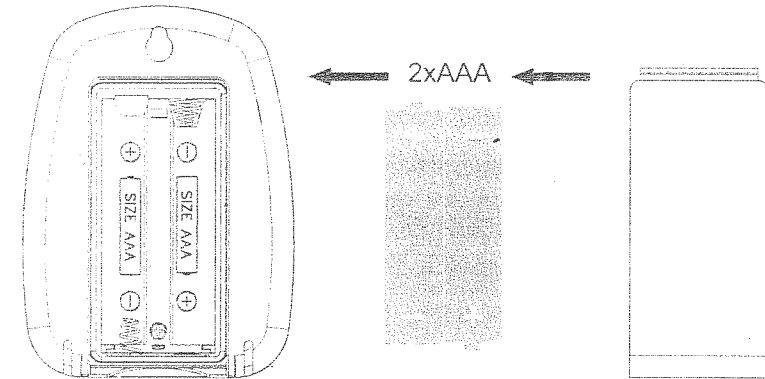

Figure 2
2. Insert two AAA batteries as shown in **Figure 2**.